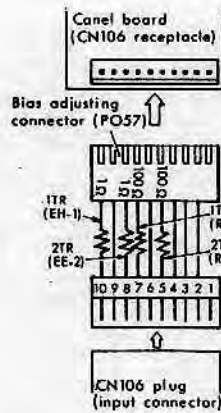

Fig 57
1. Disconnect the CN106 and connect a bias adjustment connector (PO57). Fig. 57